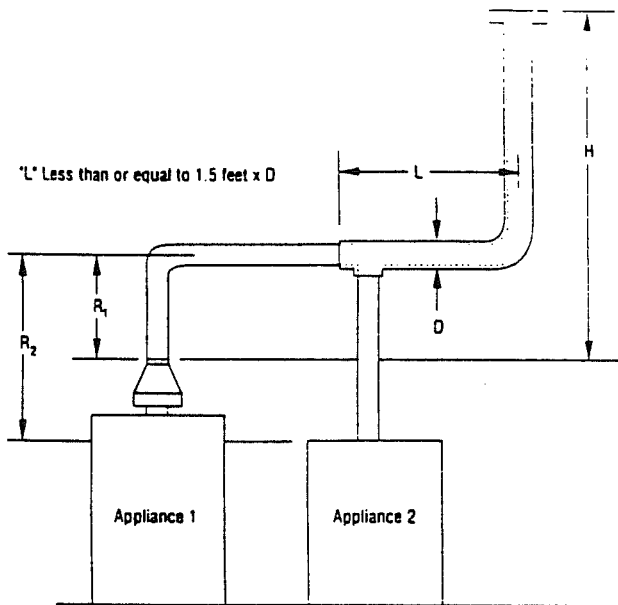

FIGURE 7
5) If vent connectors are combined prior to entering the common vent, the maximum common vent capacity listed in the common venting tables must be reduced by 10%, the equivalent of 1 (one) 90° elbow (0.90 x maximum common vent capacity). See Figure 7: The horizontal length of the common vent connect or manifold (L) should not exceed 1-1/2 feet (18 inches) for each inch of common vent connector manifold diameter.